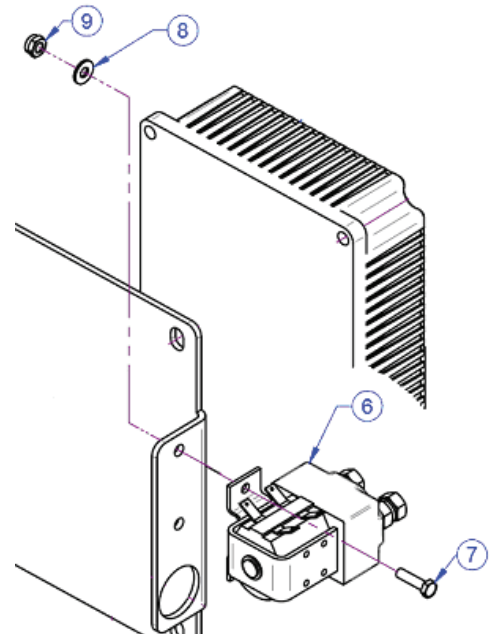

Figure 10-25. Contactor Mounting
4. Remove two nuts, washers, bolts and contactor. See Figure 10-25.
1. Position new contactor to mounting bracket (Figure 10-25).
3. Install heavy cables to stud terminals. Install control circuit wires to spade terminals (Figure 10-25). Double check wiring diagram to ensure connections are correct.